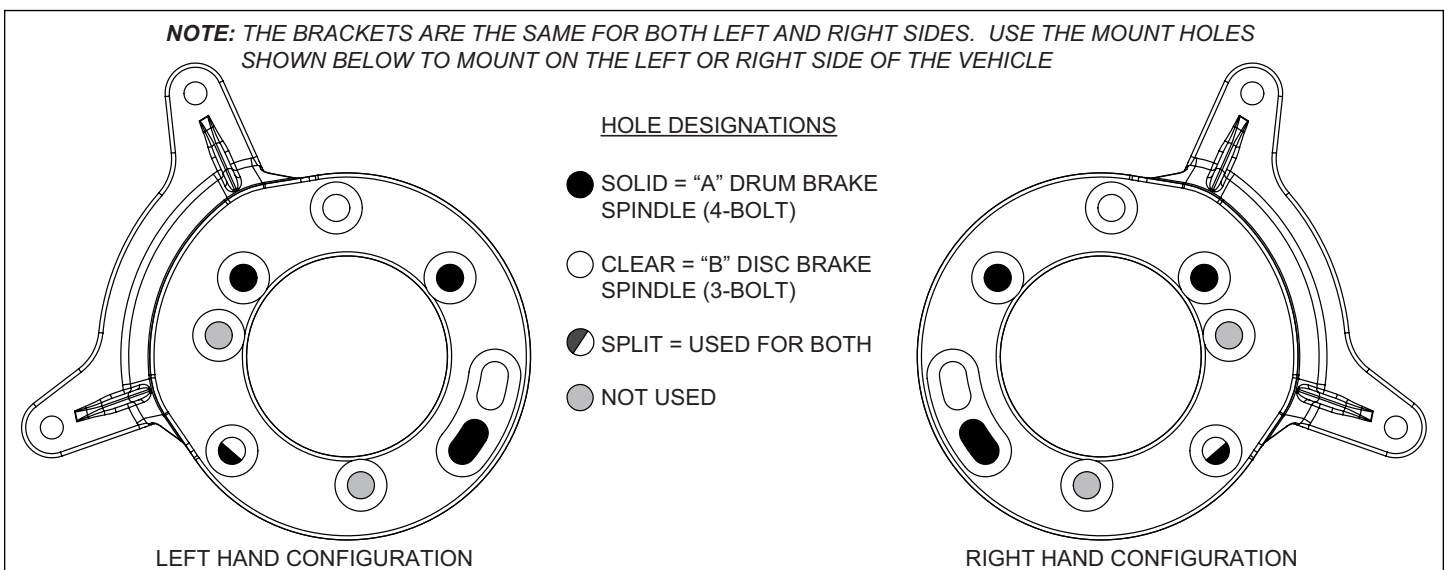
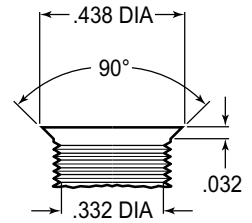
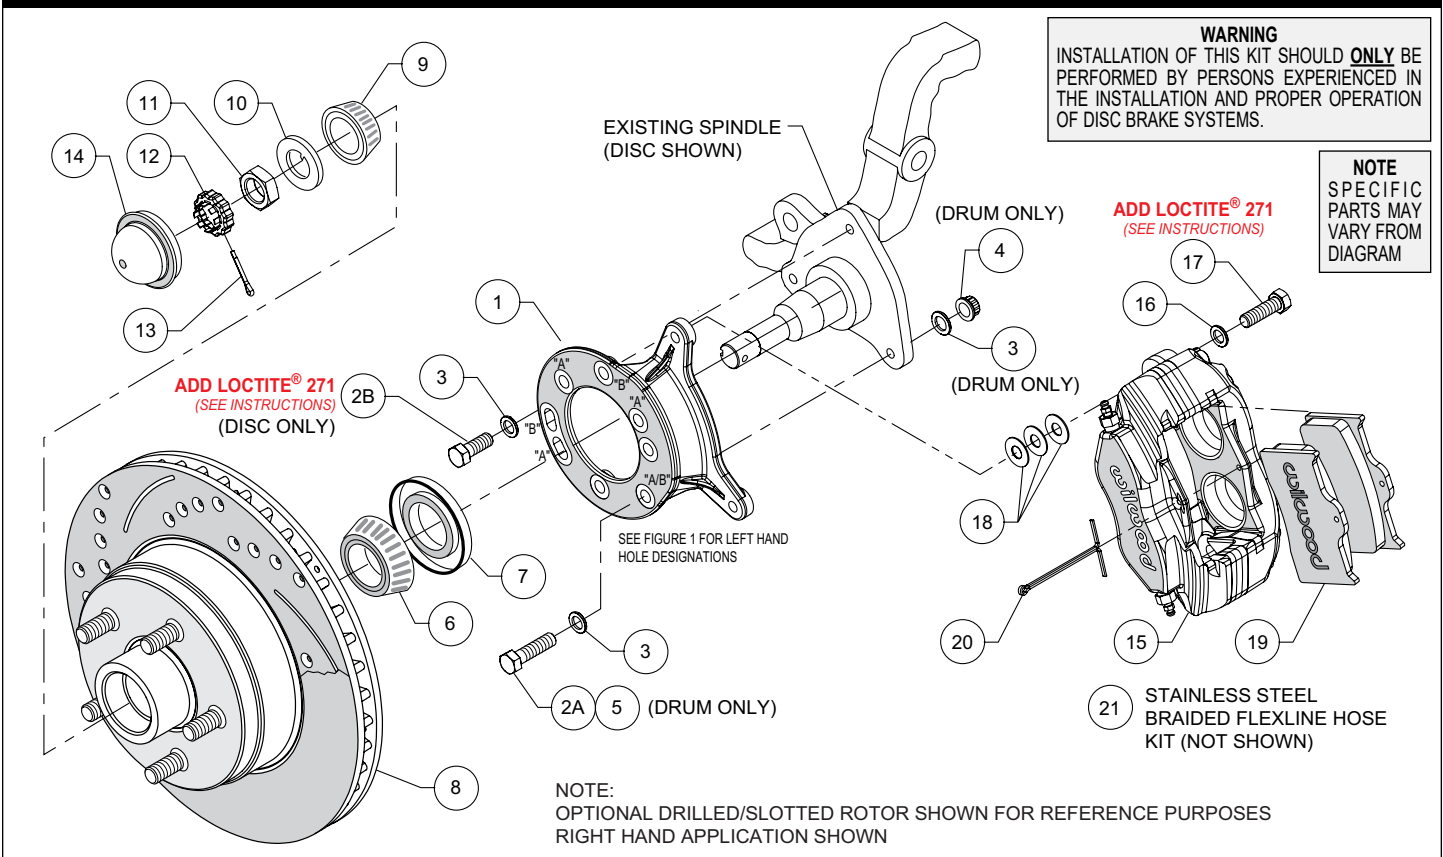

Figure 1. Wilwood Caliper Mounting Bracket
Figure 2. Drill and Tap Detail
Figure 4. Typical Installation Configuration
This kit has been designed for use with both the disc brake or the drum brake configuration of vehicle. The only difference is in how the Wilwood caliper mounting bracket is installed. The same bracket is used for both configurations; the disc brake version utilizes three mounting holes while the drum brake application uses four mounting holes (see Figure 1). For your convenience we have supplied bolt kits for both applications (see parts list and Figure 4 as necessary). Use the bolt kit that is applicable to your vehicle and disregard the other one.
NOTE: This modification should be performed by a qualified machinist and completed before assembly of the Wilwood disc brake kit begins. Using the caliper mounting bracket as a template (refer to Figure 1 as necessary), locate and verify the three original holes on the spindle that need to be modified. Drill a .332" diameter hole through all three holes, then tap 3/8-24 UNF (fine thread). Countersink the holes to .438" diameter x 90°, as shown in Figure 2.
NOTE: Numbers in parenthesis refer to the parts list and Figure 4 on the preceding pages.
•**NOTE:** This kit uses the same mounting bracket (1) for both the drum and disc brake spindles. The drum version, Photo 1, uses four mounting bolts (designated "A"), while the disc version, Photo 2, uses three (designated "B"). Refer to Figures 1 and 4 for the basic installation position of the bracket and the "A" and "B" reference designations (not physically marked on the brackets).
•**For Drum Spindle:** Align bracket, using the four "A" holes, to the face of the spindle and attach using bolts (2A and 5), washers (3), and lock nuts (4), as shown in Figure 4 and Photo 1. Torque lock nuts to 30 ft-lb.
•**For Disc Spindle:** Align bracket, using the three "B" holes, to the face of the spindle and attach using bolts (2B) and washers (3), as shown in Figure 4 and Photo 2. Finger tighten. Remove bolts one at a time, apply red *Loctite*® 271 to threads, and torque to 40 ft-lb.
•Pack the large inner bearing cone (6) with high temperature disc brake bearing grease (available from your local auto parts store) and install into the backside of the hub (8), Photo 3.
•Install the grease seal (7) by pressing into the backside of the hub (8), flush with the end of the hub.
•Pack the small outer bearing cone (9) with high temperature disc brake bearing grease and install into the front side of the hub (8). Slide the hub/rotor onto the spindle. Secure using spindle washer (10) and spindle nut (11). Adjust bearings per OEM specifications. Install spindle nut retainer (12) and a new cotter pin (13), Photo 4.
•Press the dust cap (14) into hub (8), Photo 5.
•Mount the caliper (15) onto the caliper mounting bracket (1) using bolts (17) and washers (16), as shown in Figure 4. Initially place three .035" thick shims (18) on each bolt between the caliper and the bracket, Photo 6. Temporarily tighten the mounting bolts and view the rotor (8) through the top opening of the caliper. The rotor should be centered in the caliper, Photo 7. If not, adjust by adding or subtracting shims between the bracket and the caliper. Always use the same amount of shims on each of the two mounting bolts. Once the caliper alignment is correct, remove the bolts one at a time, apply red *Loctite*® 271 to bolt threads, and torque to 40 ft-lb.
•Install the disc brake pads (19) into the caliper, with the friction material facing the rotor (8), Photo 8. Secure in place using cotter pin (20), Photo 9.
•**NOTE:** OEM rubber brake hoses generally cannot be adapted to Wilwood calipers. The caliper inlet fitting is a 1/8-27 NPT (use PTFE tape on pipe threads for proper sealing to caliper). Install Wilwood's stainless steel braided flexline hose kit (21), P/N 220-9195 included with this kit. **Carefully route hoses to prevent contact with moving suspension, brake or wheel components.**